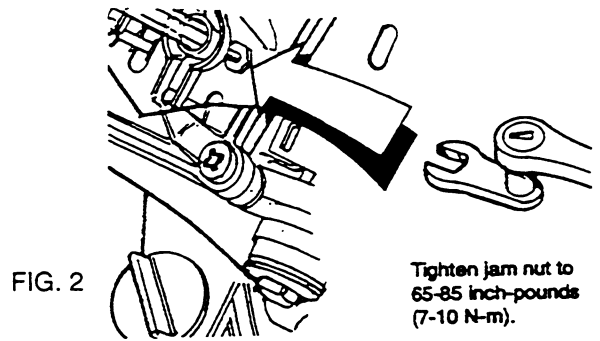

FIG. 2
- 4) When the clearance is correct hold pivot stud with the allen wrench and tighten jam nut (Fig. 2) to (6.3 ft. lbs. for the GN190, GN191, and GN220) or (14.5 ft. lbs. for the GN320 and GN360).